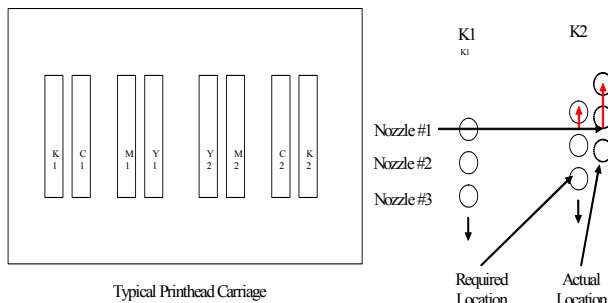

Figure 2: Head alignment errors
- Printhead alignment errors (figure 2). These errors originate from problems with aligning multiple heads within a color and alignment between the colors. Printheads have their own specifications and tolerances and any alignment procedure should be based upon a best fit approach. Once aligned, the mechanical mounting should be stable over the complete operating temperature range and the maximum acceleration specified within the scanning architecture design.